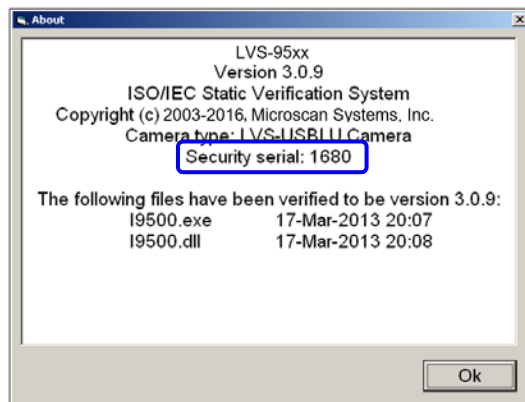

Figure 31: Security Serial Number
43. Locate the Security Serial number (Figure 31) and provide this number to a Microscan distributor or Microscan Headquarters via e-mail or phone.